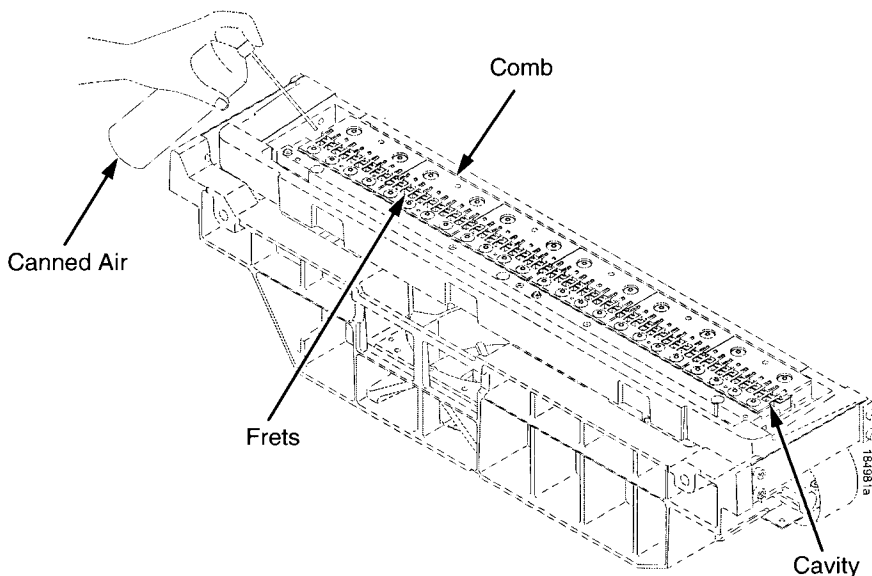

Figure 8. Cleaning the Hammer Tips with Canned Air
17. Place the shuttle so that the base sits flat on the work surface. Use a ESD-Safe Service vacuum to clean debris from the hammerbank combs and frets. If necessary, use the alcohol pads (from shuttle cleaner kit, P/N 254946-001) to wipe the surface of the combs and frets. Hold the canned air at a 45° angle along the side of the hammerbank (Figure 8), and clean along the empty cavity underneath the combs and frets.